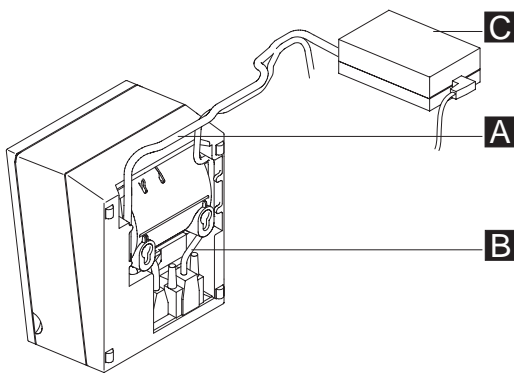

Figure 37. Attaching and routing the cables to the printer.
- a. Install the printer cables and route the cables as shown in Figure 37 on page 46.
5. Connect and route the RS-232 communication cable or Powered USB cable **A** and the power supply cable **B** as shown in Figure 37 on page 46.